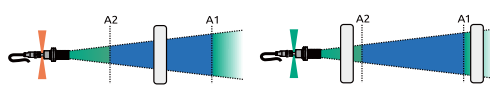

Figure 19 - Trigger on out of range: on approach (S<A2) or on approach (S>A1)
- The output signal toggles when an object is at a certain distance (S) within the configured range. The working principle is shown in Figure 19. When the object is not in or out of the set range, the output turns off. The user range needs to be set during operation: $A1 > A2$.